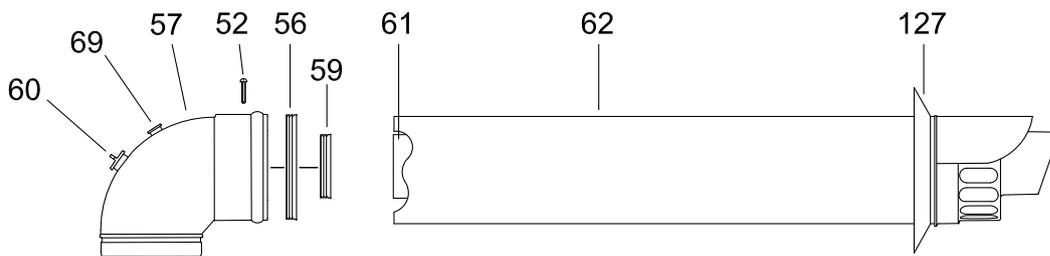

Fig 10
HORIZONTAL FLUE KIT BOX CONTAINING (Fig 10):
Note: Add 30mm to overall flue length to allow for terminal wall cover.(fig.10 item 127).
Note: Add 30 mm to overall flue length to allow for terminal rubber wall seal (fig.10 item 127).